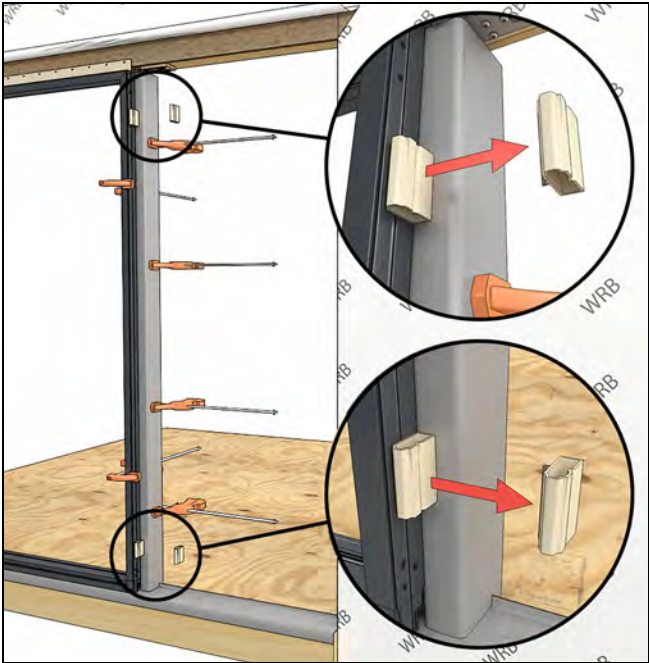
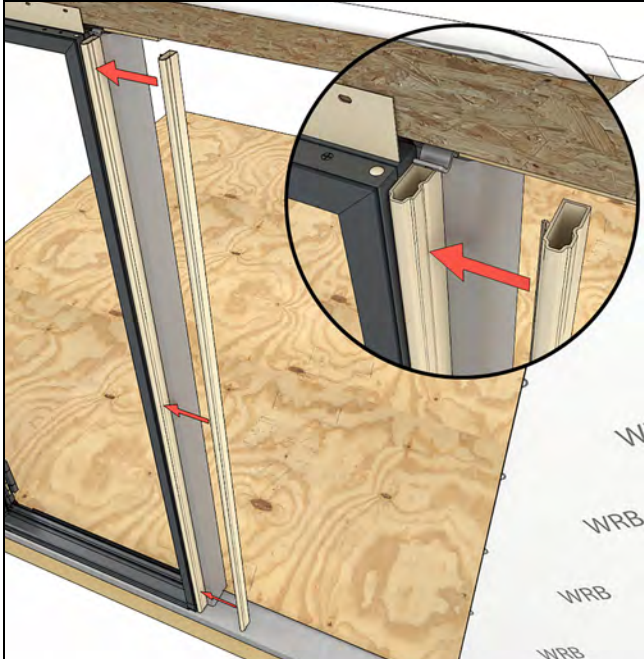

Figure 230
Figure 231
14. Remove the temporary mull filler blocks and replace with a full length block. See Figure 230 and Figure 231.